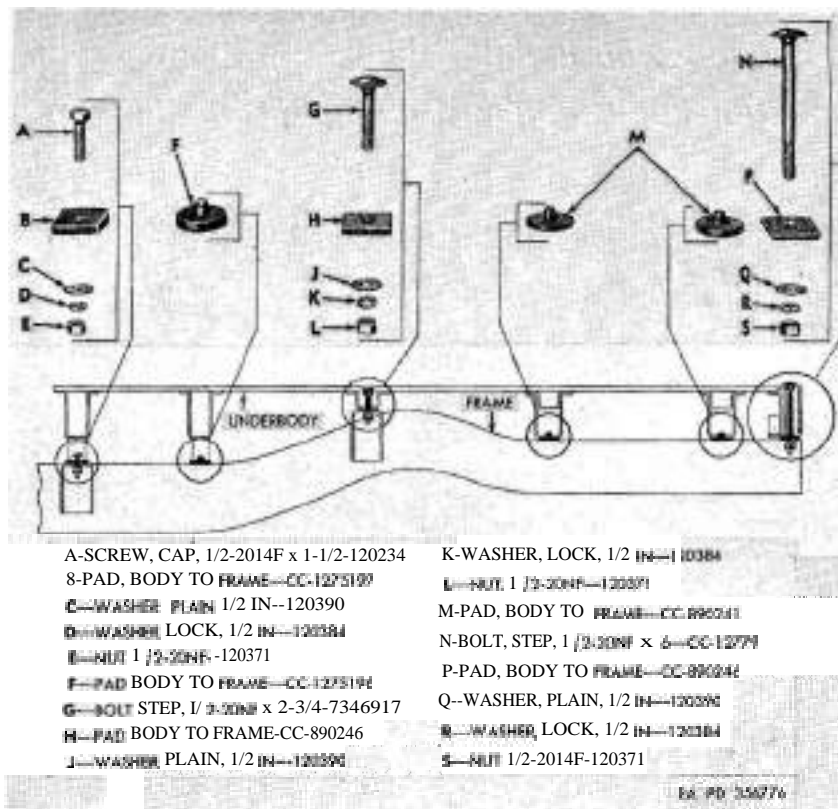

Figure 41. Cargo and command body hold-down bolt, cap screw, and pad locations.
a. *Install Cargo and Command Bodies (fig. 41).*
- (1) Insert two 1/2-20NF x 6 step bolts (N) in rear holes in underbody, two 1/2-20NF x 23/4 step bolts (G) in center holes, and two 1/2-20NF x 11 1/2 cap screws (A) in the front bracket holes. Attach body-to-frame pads (B, F, H, M, and P) to body support brackets with plastic-type gasket cement.